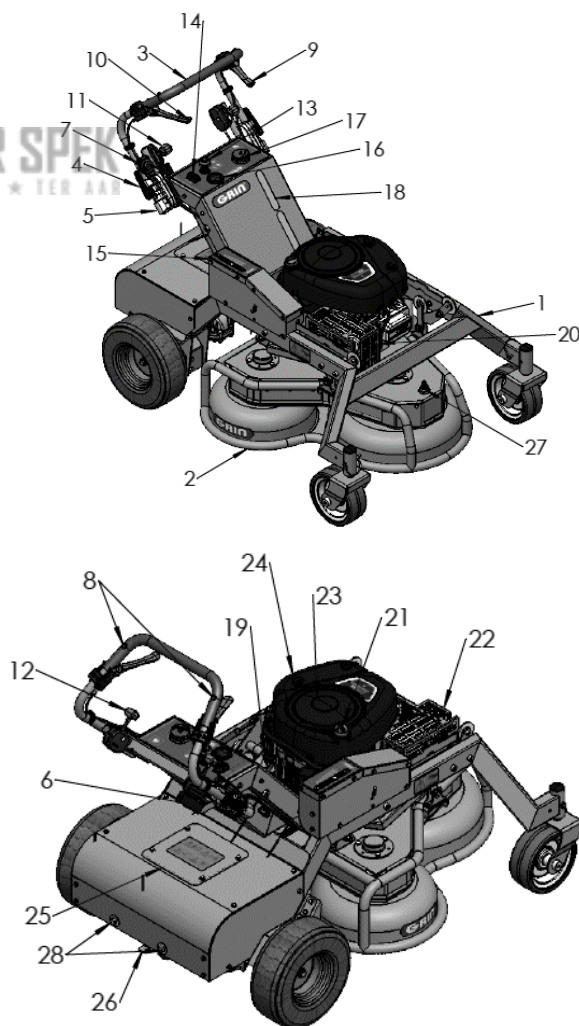

Fig. 7 - Machine components
Your Grin XM is delivered with oil in the engine. After approximately 5 hours of operation, it is recommended to check the oil level with the oil dipstick (Fig.7_21) and top up if required. Refer to the engine manual for oil quantity and type.
2. Unscrew the petrol tank cap (Fig. 7_17), but only after removing any dirt or residues from the cap zone.
3. Fill with normal unleaded petrol by using a funnel. You can check the petrol level by means of the fuel level gauges located on the machine (Fig.7_18). Do not fill beyond the visible level, leave room for fuel expansion. Remove any leaked or spilled petrol immediately; never mix oil with fuel.
6. Open the petrol cock between the tank and engine. (Fig.7_19). It is recommended to always close the cock during transport to prevent too much petrol from entering the engine.
NB: When the engine is cold, move the engine speed adjustment lever (Fig.7_12) to the choke position.
!!! CAUTION !!! After starting the engine, immediately remove the engine speed adjustment lever (Fig.7_12) from the choke position
Your XM is equipped with electronic millimetric cutting height adjustment. After switching on the machine, press the height adjustment button (Fig.7_14) to raise or lower the cutting system. The set height can be checked via the height indicator (Fig.7_15). Moving the indicator towards the green area increases the cutting height. Moving the indicator towards the red area decreases the cutting height. For optimal cutting, it is recommended not to bring the indicator into the red area.
1. After starting the engine, disengage the parking brake by moving the lever (Fig.7_6) to the right and then upwards.
2. After checking that the cutting width is correct, start the cutting system by lifting the yellow pushbutton on the dashboard (Fig.7_13).
3. Move the gear lever (Fig.7_11) forwards or backwards. Move the lever gently so as to gradually vary the speed, particularly when using reverse gear. Sudden changes in speed may cause the operator to lose balance.
4. To steer the machine, press the left lever (Fig.7_9) to go left and the right lever (Fig.7_10) to go right. Pressing the short lever adjusts how narrow the curve will be. When the lever is pressed fully, the machine will spin around.
1. Move the forward/reverse lever (Fig.7_11) to neutral position (N)
2. Engage the parking brake, moving the lever downwards (Fig.7_6)
3. Switch off the cutting system by pressing the yellow pushbutton on the dashboard (Fig.7_13)
4. Release the dead man safety switches (Fig.7_8) to switch off the machine.
1. Unscrew the fixing screws of the On-board kit (Fig.7_28), position the plate and tighten the screws as shown in the picture above. Tighten the screws with a torque of 50Nm.
- III. Access the battery compartment by unscrewing the 4 screws securing the door (Fig.7_25). Disconnect the battery and connect it to a charge maintainer.